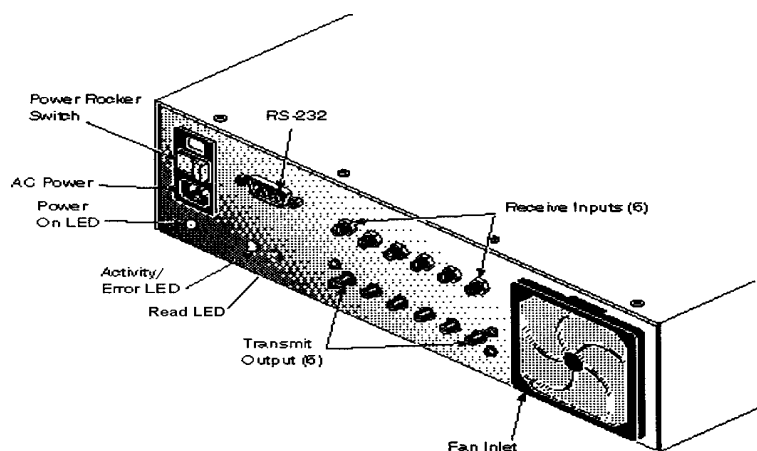

Figure 3. InstaScan Scanner
The InstaScan provides the connectors and LEDs described in the following sections and shown in Figure 3.
The InstaScan's front panel has three LEDs that indicate power, activity, and transmitter on (see Figure 3). Table 1 describes the meanings of the InstaScan LEDs.
The InstaScan's front panel has an On/Off switch located below the Power ON LED (see Figure 3).
1. Attach the male connector on the serial cable to the 9-pin serial connector on the InstaScan front panel (see Figure 3).
1. Verify that the On/Off switch on the InstaScan front panel is in the OFF position (see Figure 3).
2. Connect the power cord the front panel (see Figure 3).